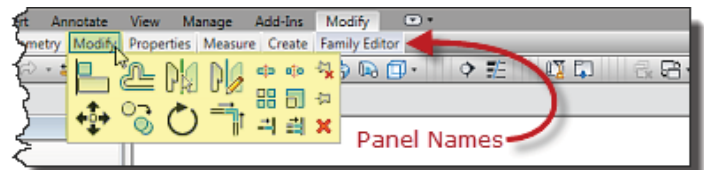

Figure 7 - Minimize to Panel Tiles
- Minimize to Panel Tiles (Figure 7): You gain approximately 1 1/8" screen space with this setting. A second row is added below the tabs which are the panel names. After you click on a tab, tools automatically pop out when you hover over any of the panel names.